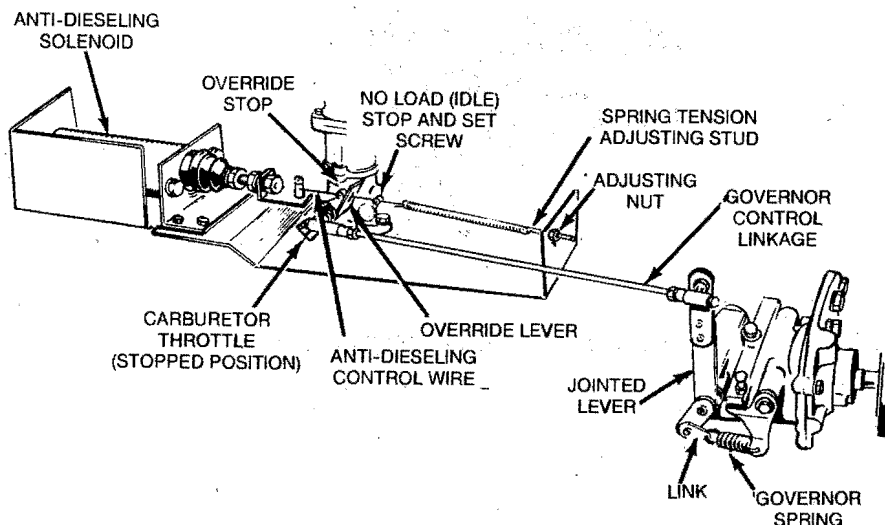

FIGURE 19. ANTI-DIESEL CONTROL
2. **Anti-diesel control** — Move override and no load stops (set screws on wire link, Figure 19) away from override lever so there is no effect on engine speed.
- a. Ensure the wire linkage is securely attached to the solenoid plunger. Do not shorten or lengthen this condition unless the spring tension at the opposite end cannot be fully adjusted by its stud, see Figure 19.